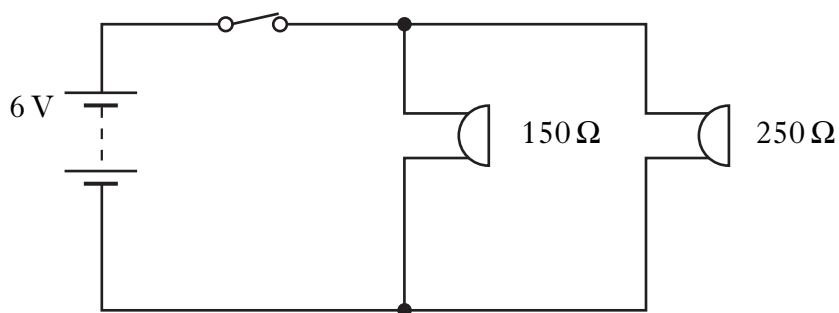

Figure Q4
4. The circuit for an alarm system is shown in Figure Q4.